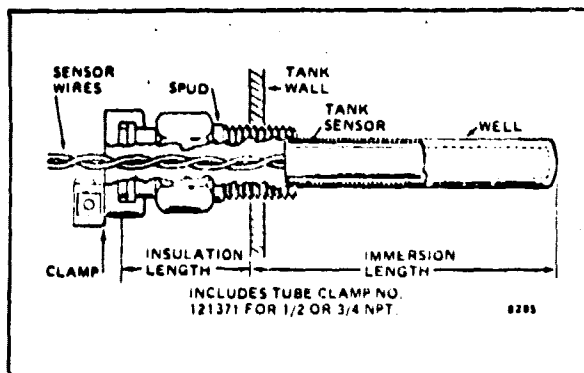

FIG. 1—TANK SENSOR INSERTED IN IMMERSION WELL.
**Immersion Well**--for mounting sensor in storage tank. See immersion well table and Fig. 1.
1. Drain system fluid to a point below the sensor fitting. (Refer to Fig. 1.)
1/2 inch conduit in the bottom of the controller case (Fig. 1).